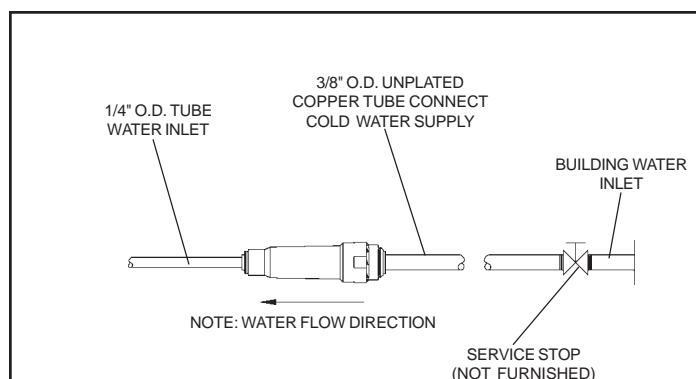

FIG. 10
5. Connect drain and water supply lines to the freeze resistant fountain. Refer to Figure 1 for component positions. Inline strainer must be used on the inlet water line. See Fig. 10